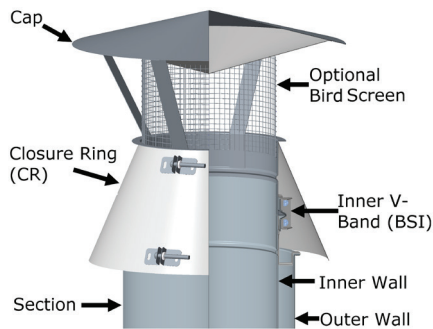

Figure 68 - Rain Cap (RC) installed
The Rain Cap combine partial protection against rain entry with low exit flow (resistance is roughly 0.5 velocity heads). It is mounted to the end of a standard pipe section by use of the standard Inner V-Band (BSI). See Step 1 to 4 in the **JOINT ASSEMBLY Section**. It is a single wall assembly (for all Models DCL, DAS1, DIS1, DIS2 and DIS4), but a Closure Ring (CR) is provided as part of the Rain Cap so that the insulating space is protected through the upper end of the chimney. The CR must be seal to the inner wall with outer Sealant **S-375**. See **Figure 68**.